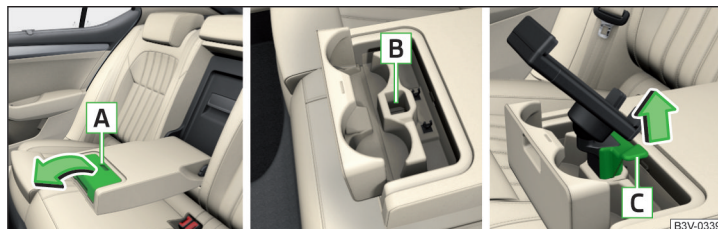

Fig. 113 Open storage compartment / stowage compartment for holder / remove holder
- To **insert**, hold the lid on the recess **A** and fold open in the direction of arrow » Fig. 113.